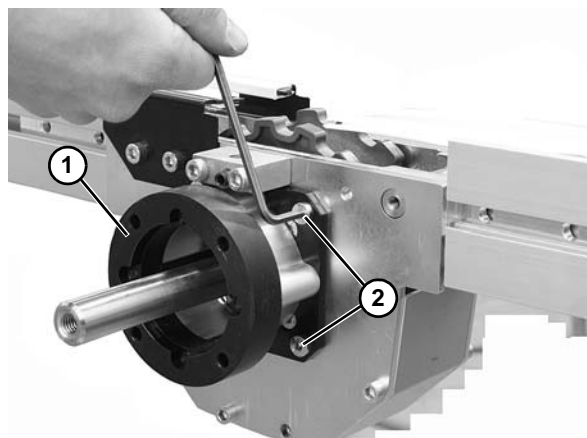

Figure 69
6. Install drive motor mounting plate (**Figure 69, item 1**) using four hex head cap screws (**Figure 69, item 2**).